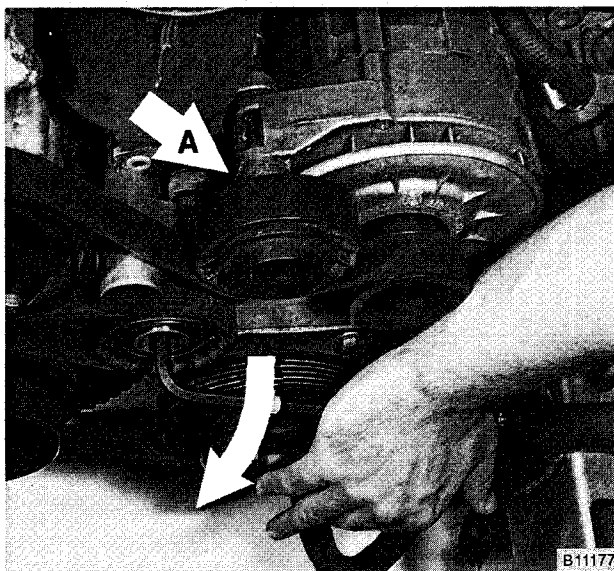

Fig. 5. Pry off cover from tensioner and then lever tensioner clockwise to release belt tension. Remove upper roller (A) once belt is removed.
4. Remove alternator drive belt from alternator pulley. On engines with hydraulic belt tensioner, remove tensioner idler pulley (upper roller) from alternator bracket. See Fig. 5.